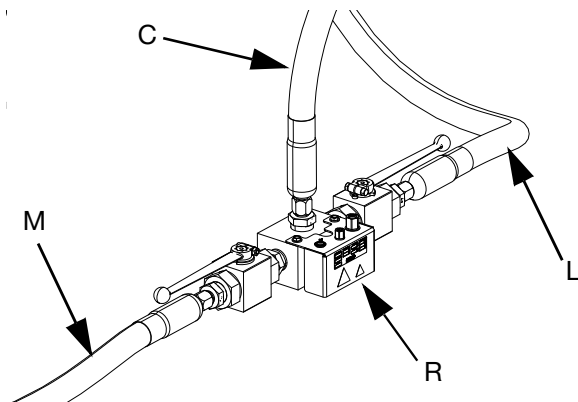

FIG. 19
- c. Connect Tandem Hose 1 (L) and Tandem Hose 2 (M) from the supply system to the Tandem Block (R). See FIG. 19.
- d. Connect Supply Hose 1 (C) to the Tandem Block (R). See FIG. 19.